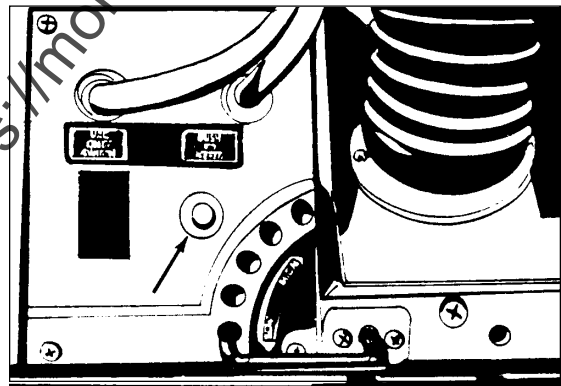

Figure 6
7. The reset button is at the lower rear of the machine. Push the reset button. See figure 6